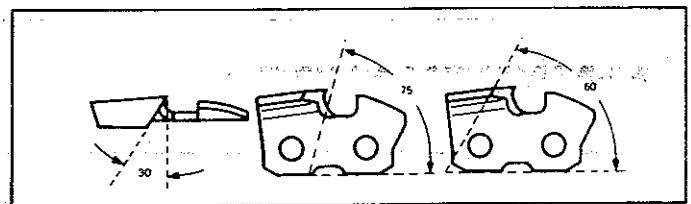

Figure 33
- f.) File P72S chain to meet specifications shown in Figure 33.
Maintain the proper hook angle according to the manufacturer's specification for the chain you are using. Too much hook angle will increase the chance of kickback which can result in serious personal injury. Figure 33 & 35.